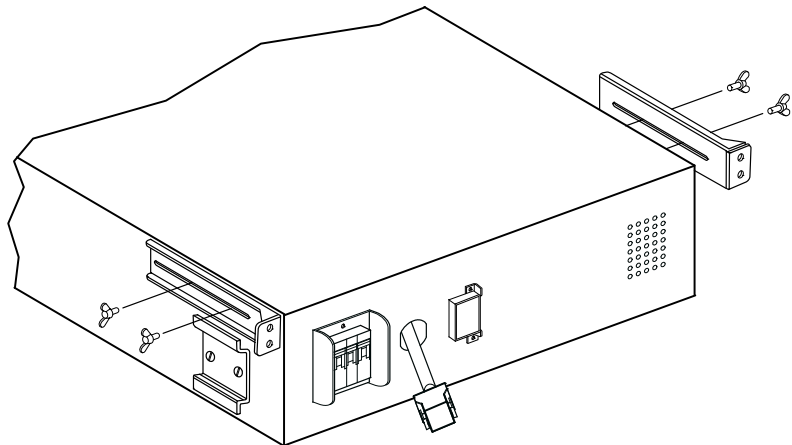

Figure 9. Installing the Optional EBM Seismic Mounting Brackets
15. If installing the optional seismic mounting brackets, align the two EBM seismic mounting brackets with the screw holes on the sides of the EBM above the rear mounting brackets. Loosely secure the brackets with four supplied wing bolts. See Figure 9.